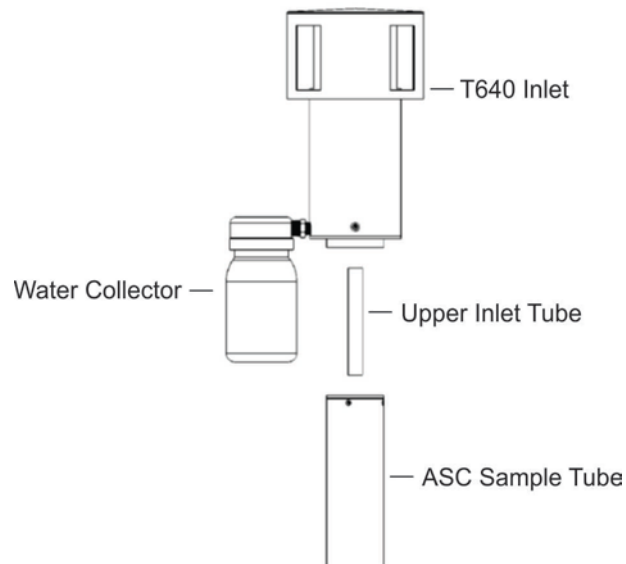
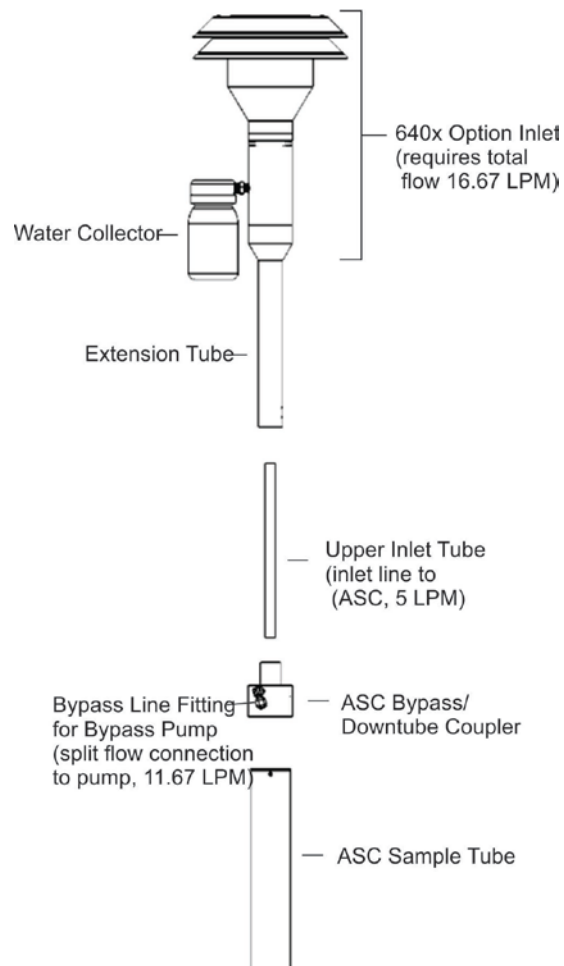

Figure 2-8. T640 Inlet (standard) and ASC Assembly
Figure 2-9. 640X Option Inlet and ASC Assembly
4. Assemble the inlet and the ASC as depicted in Figure 2-8 for the T640 or in Figure 2-9 for the 640X Option, ensuring the parts fit snugly with no gaps. Note that if to be installed in a shelter with roof penetration (Section 2.6.1), leave the inlet with water collector off for the time being).